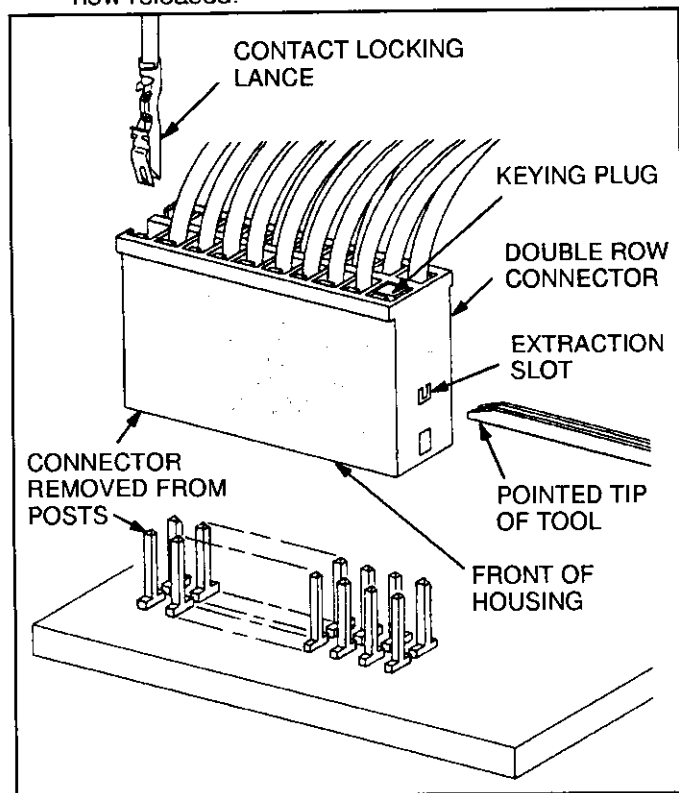

Fig. 2
B. Double Row Connectors (see Figure 2)